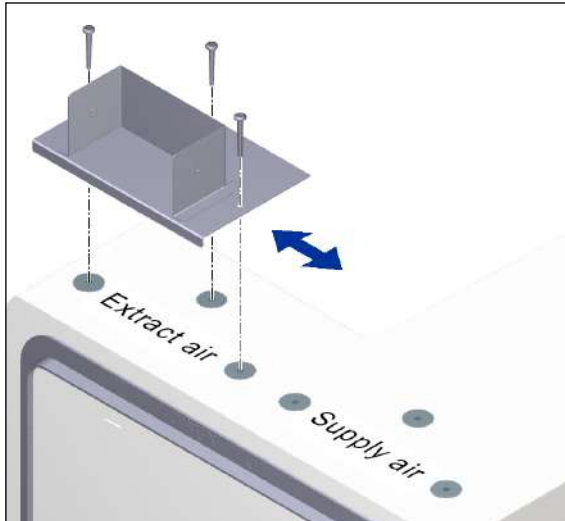
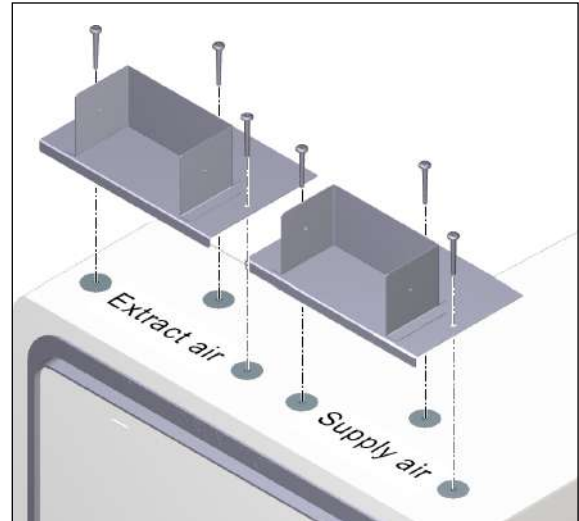

Fig. 8: M-WRG-M/MB-FK1, fixing the fixing plate for extract air **or** supply air
Fig. 9: M-WRG-M/MB-FK2, fixing the fixing plates for extract air **and** supply air
► Use the Spax screws to fix the fixing plate (see Fig. 8 and Fig. 9).